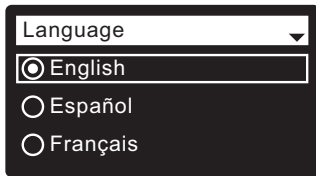

FIG. 18
- 1. LANGUAGE** If the desired language already has a dot next to it (See Figure 18), go to Step 2. Otherwise, press the softener’s DOWN (▼) or UP (▲) buttons to scroll to the desired language, then press the SELECT (○) button to choose it.